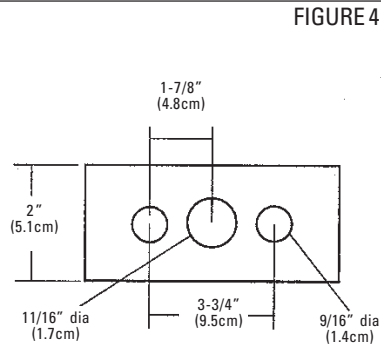

FIGURE 4
5. The standard fixture comes with a yoke mounting bracket which can easily be mounted to a variety of accessory mounting hardware. (FIGURE 4)